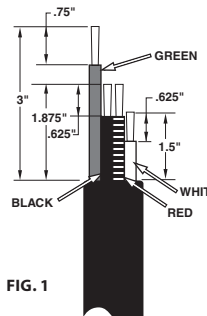

FIG. 1
- Strip cable as shown in Fig. 1. Make sure the longest wire is the green ground wire. Do not solder the ends of the wire.